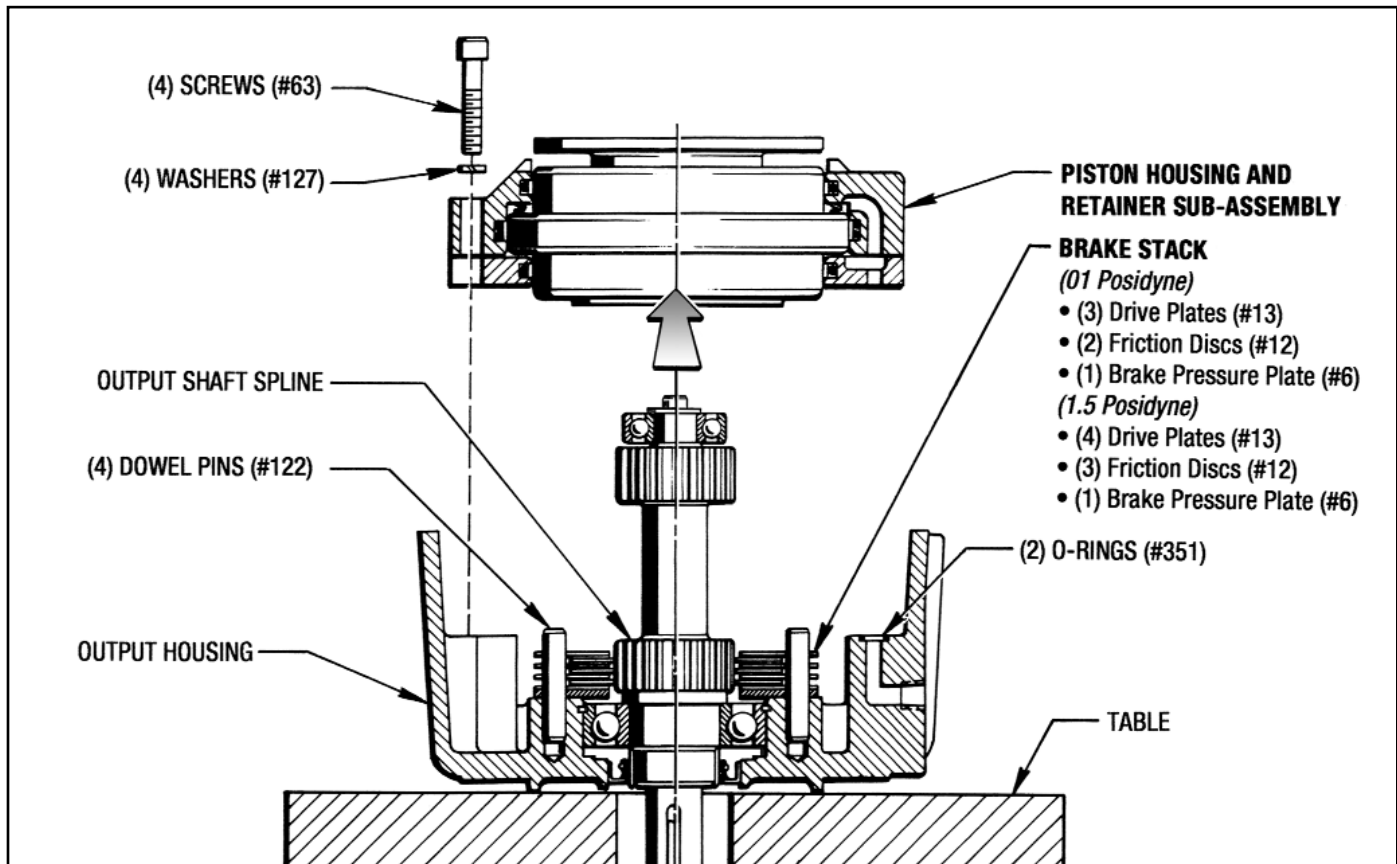

Figure 7.3 - Access to the Brake Stack
7. The **Brake Stack** can now be removed from the Output Shaft spline. This includes Drive Plates (#13), Friction discs (#12), Separator Springs (#349) and a Pressure Plate (#6). (See Figure 7.3)
7. The **Brake Stack** can now be removed from the Output Shaft spline. This includes Drive Plates (#13), Friction discs (#12) and a Pressure Plate (#6). (See Figure 7.3)